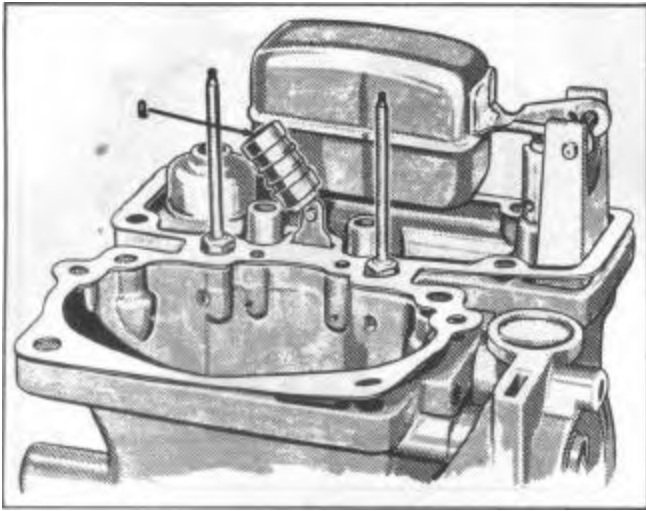

FIGURE 79
15. Install vacuumer piston (Q), Figure 79, on link with pin extending away from float (Install a new bowl gasket.)